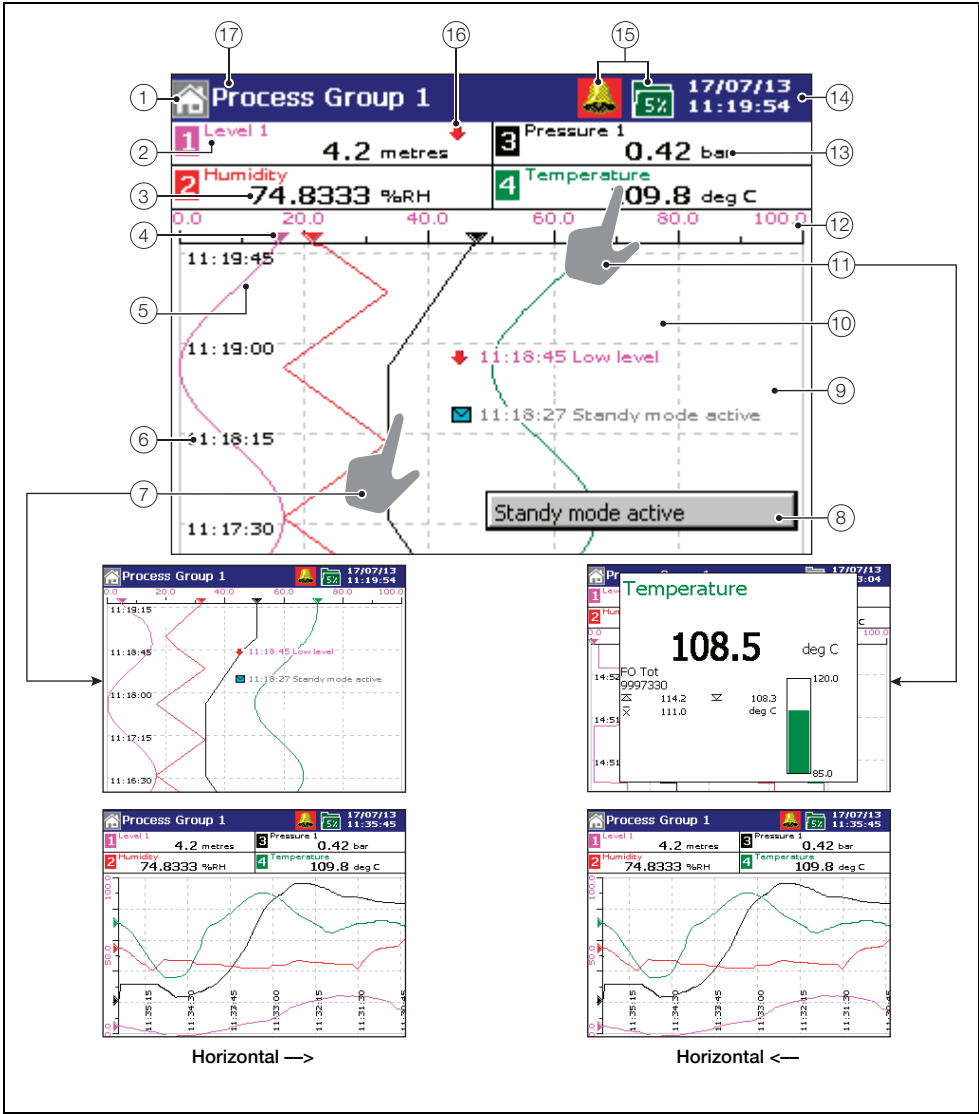

Fig. 5.5 Vertical and horizontal chart views
Key to Fig. 5.5:
If **any** alarm in **any** process group is active, the Global Alarm status icon () is displayed in the status bar – see item (15) in see Fig. 5.5, page 28. If **any** active alarm in **any** process group is unacknowledged, the icon is surrounded by a flashing border (.